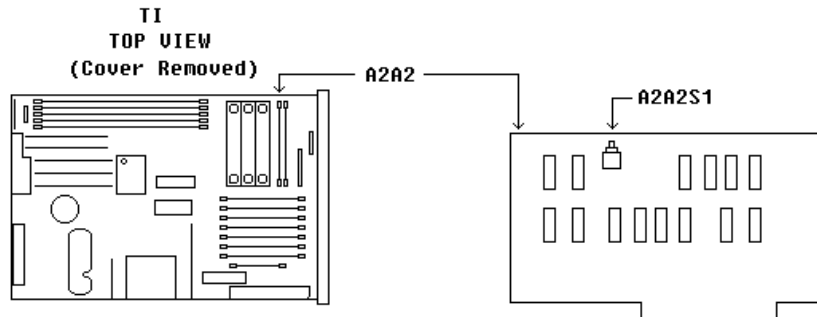

Figure 6. A2A2 board.
- (1) Remove TI protective covers.
- (2) Press TI **FREQUENCY, 2 , GHz** keys and adjust the output level to  $-3$  dB.
- (3) Set the measuring receiver to measure tuned power at 2 GHz in a **LOG** mode.
- (4) Press number **6** pushbutton on the TI.
- (5) Press service switch A2A2S1 (fig. 6).
- (25) Press service switch A2A2S1 (fig. 6).
- (26) Reduce TI RF output level to minimum.
- (27) Replace TI top cover.